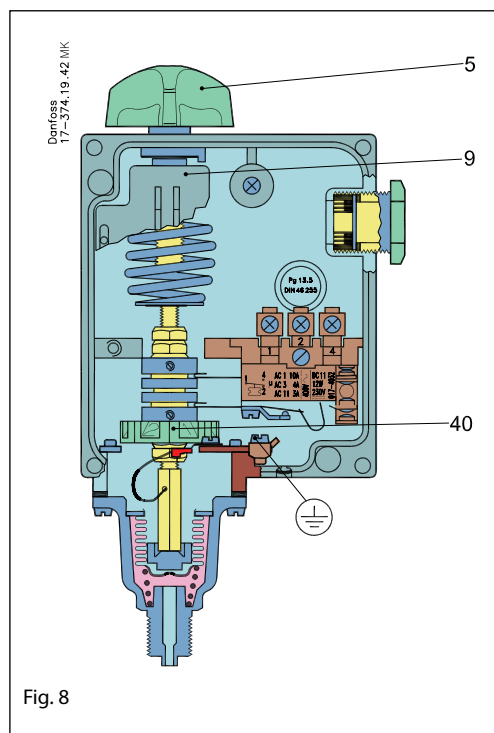

Fig. 8
The range is set using the setting knob (5) fig. 8 while reading the range scale (9). The pressure set is the break pressure for contacts 1-4 (see fig. 13). The required neutral zone can be found in the
The RT 200L must be set using the setting knob (5) fig. 8 page 9 at 3.5 bar (35 m wg) minus the fixed differential of 0.2 bar.
The neutral zone,  $35 - 32 = 3$  m wg, corresponding to 0.3 bar, must be set on the neutral zone disc (40) fig. 8 page 9. According to the diagram fig. 12 the disc setting is 1 or just over. A more accurate setting can be obtained by using the test setup shown in fig. 14.